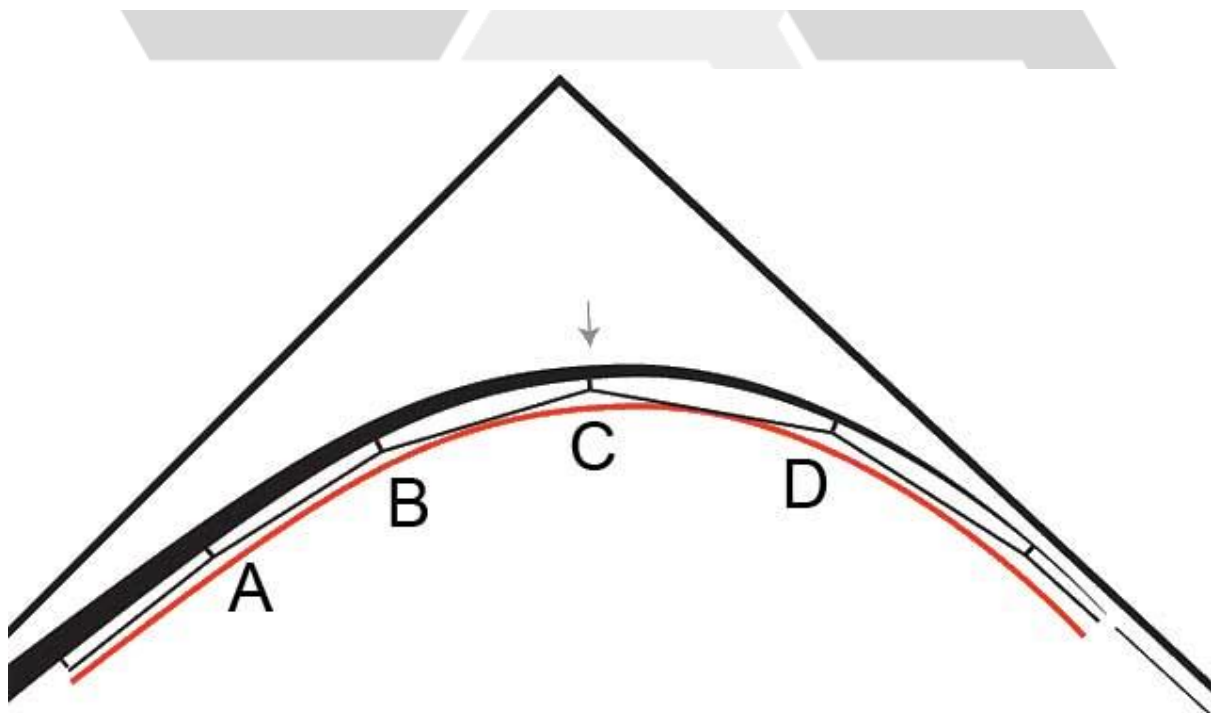

Figure 5-3 Bad Spacing
5. Move the guides up and down the blank, fixing each to the blank using a guide holder or tape, until the deviation angle in the line created by each guide is the. The angle on the stripper (closest guide to the reel seat) and the next guide are usually slightly larger it just depends on the action of the rod. See figure 5.3 – Good Spacing. You can see the curve of the line follows the “perfect curve” of the rod. The Angle A – B – C and angle B – C – D should be approximately 15 degrees.
6. The RodKits 6’8” foot rod has 6 guides plus a tip. When under load the line should create about a 15 degree angle as it crosses the guide. See figure 5.3. Once all the angles are equal the load is spread evenly across each one.
Please study Figure 5.3 Good Spacing and Figure 5.4 Bad spacing. As you can see in Figure 5.3 the line follows the red “perfect curve” much more closely than Figure 5.4. In Figure 5.4 Bad Spacing the angle B – C – D is more than angle A – B – C therefore spacing needs to be reduced and or more guides added. In this situation there would be a lot more pressure on Guide C.